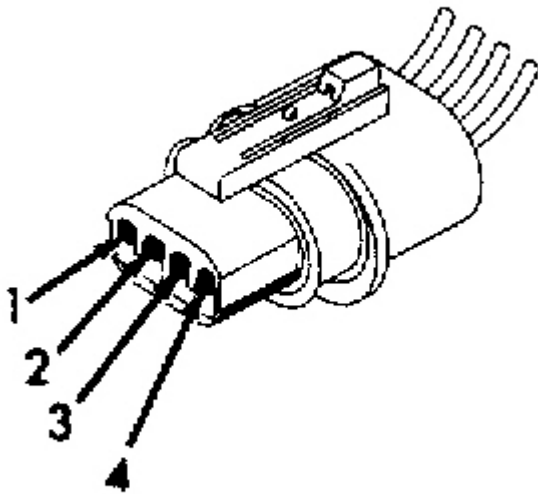

Fig. 4: Cruise Control Servo Connector Terminal ID
lead to vehicle ground. Disconnect servo connector. Check voltage at pin No. 2 of servo connector. See **Fig. 4** . If voltage is less than battery voltage, check for loose connections, brake switch adjustment or damaged harness.
1. Remove cruise control cable from throttle body. Disconnect cruise control servo 4-pin connector. Disconnect vacuum hose at cruise control servo. Apply battery voltage to terminal No. 2 of servo connector. See **Fig. 4** . Using jumper wire, ground remaining 3 terminals of servo connector.